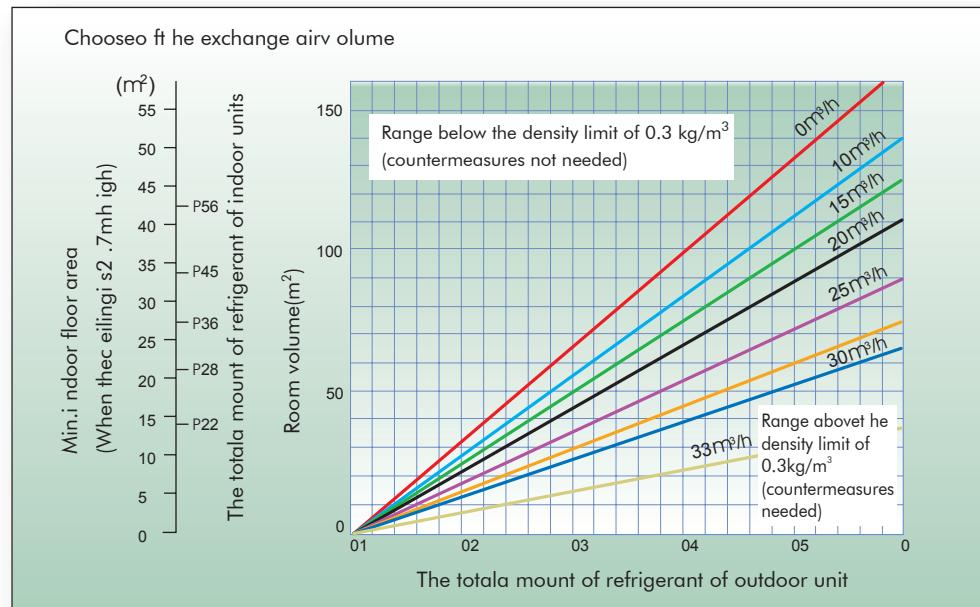
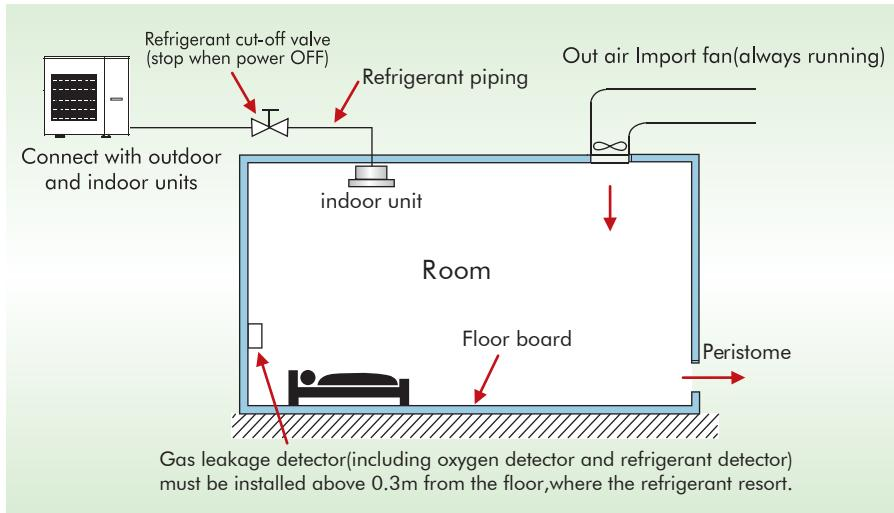

Fig.5.6
Fig.5.9
According to the total amount of refrigerant of refrigerant equipment and the room volume, air exchange volume should be greater than the volume showed in Fig.5.6.
- (a) In order to avoid malfunction of air exchange system, please do not choose the range showed in oblique line in Fig. 5.6 even though equipped with air exchange system. If entering into this range, should set effective air exchange port, expand room volume or decrease the amount of outdoor unit, change the piping length in order to decrease total refrigerant amount, in principle according to method 1 and 2.
- (b) Where an air exchange system is provided but it is impossible to take Method 1 or Method 2 when the refrigerant concentration is within the range indicated by the oblique line in Fig. 5.6, please use other means independent from air exchange system to ensure safety. In detail, we can set a refrigerant cutoff valve that can be activated by the detector upon refrigerant leakage and as well, set an alarm system that can notify the indoor person. The detector here is different from the detector in aforementioned air exchange system. Shown in Fig. 5.9 is the status that a refrigerant cutoff valve is set.